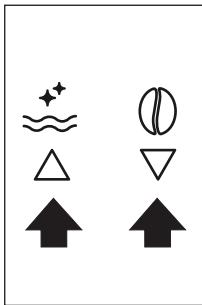

Fig. 9
- Press the icons $\triangle \triangledown$ (B7) and (B8) (Fig. 9) until "PROGRAM COFFEE" is displayed.